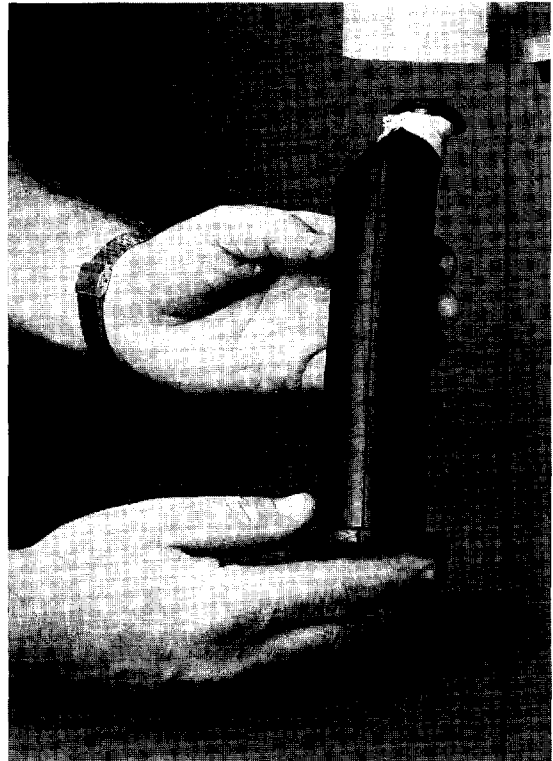

Fig. 21
13. Fold a point on the edge of the flange upward (Figure 19). Push the edge down the throat of the HYDRATUBE (Figure 20). Fold the sides of the flange inward to form a compact 45° "nose" and wrap tightly with a rubber band (Figure 21). This wrapped nose should be reasonably compact and secure.